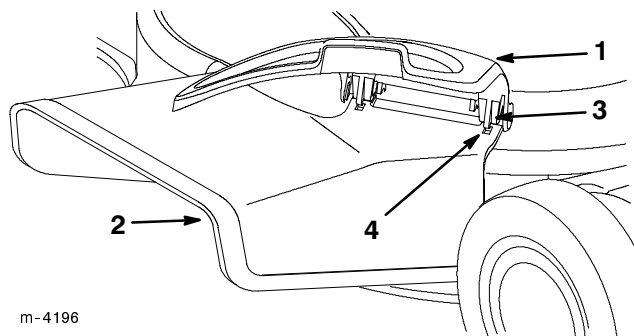

Figure 50
5. Slide the chute over the opening with the slots in the chute lined up with the tabs under the cover (Fig. 50).
3. Open the side opening cover and remove the side discharge chute (Fig. 50).